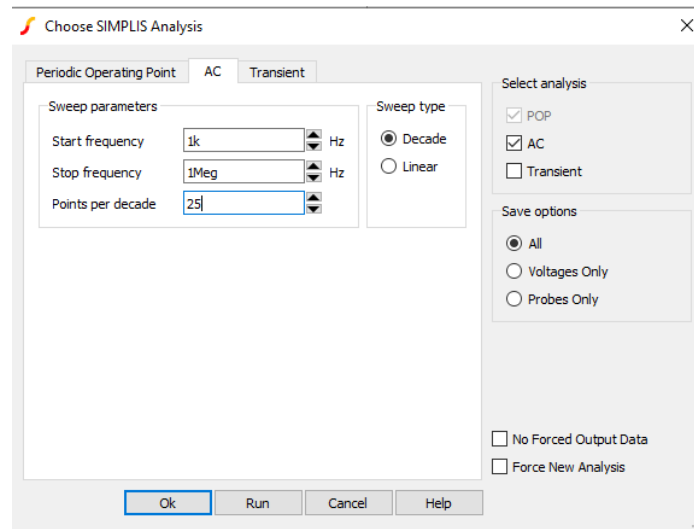

Figure 15: Setting Up AC Analysis
3. Select the AC tab at the top to enter the parameters (see Figure 15).